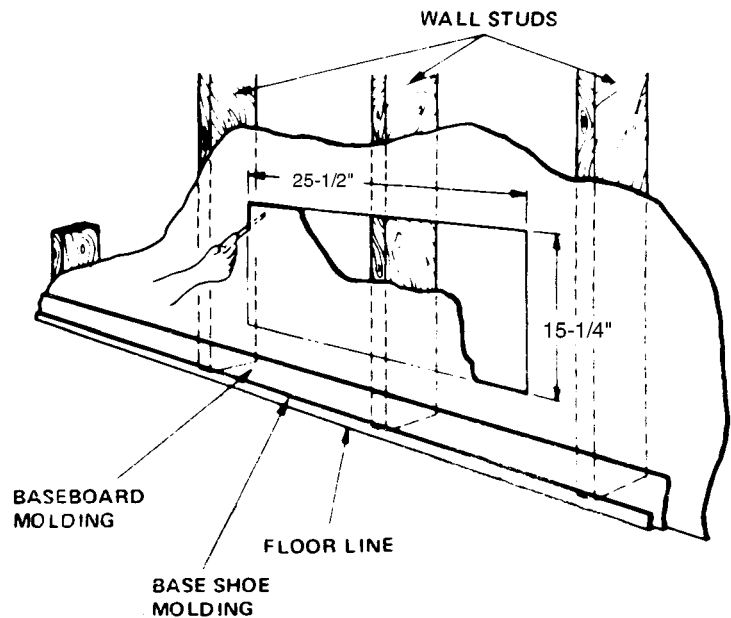

Fig. 6
1. Select location and cut rectangular opening through wall to Sleeve dimensions (25-1/2" w x 15-1/4" h). Allow enough height, depending upon wall thickness, to permit 2" min. slope to outside. See Figure 6.